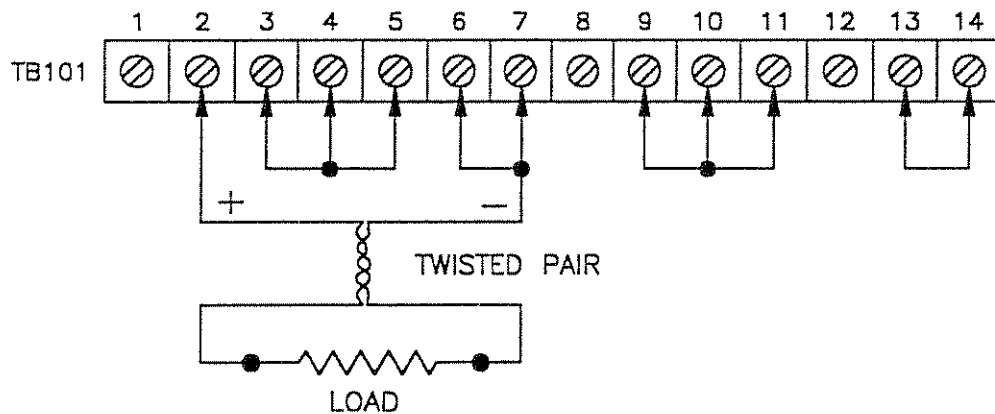

Figure 3: Remote Sensing
3.3.2 Remote Sensing (Figure 3)